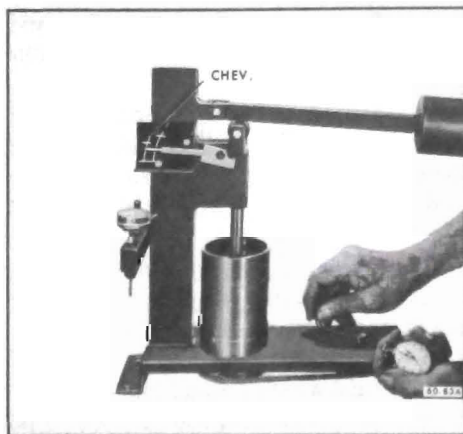

Figure 60-111--Checking Lifter Leakdown Rate
6. Raise weight arm to allow lifter plunger to come up to its retainer, then lower arm to rest on the ram roller. As pointer starts moving upward, start rotating fluid cup by turning handle one revolution every two seconds. See Figure 60-111.